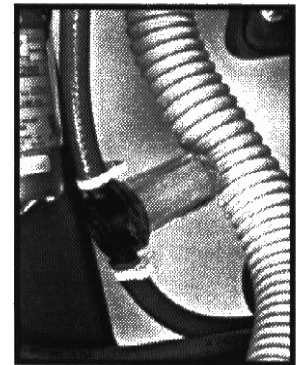

figure 9
- Tilt the machine back onto the floor to expose the bottom of the machine and the clear plastic *solution filter screen assembly*. (Figure 9)